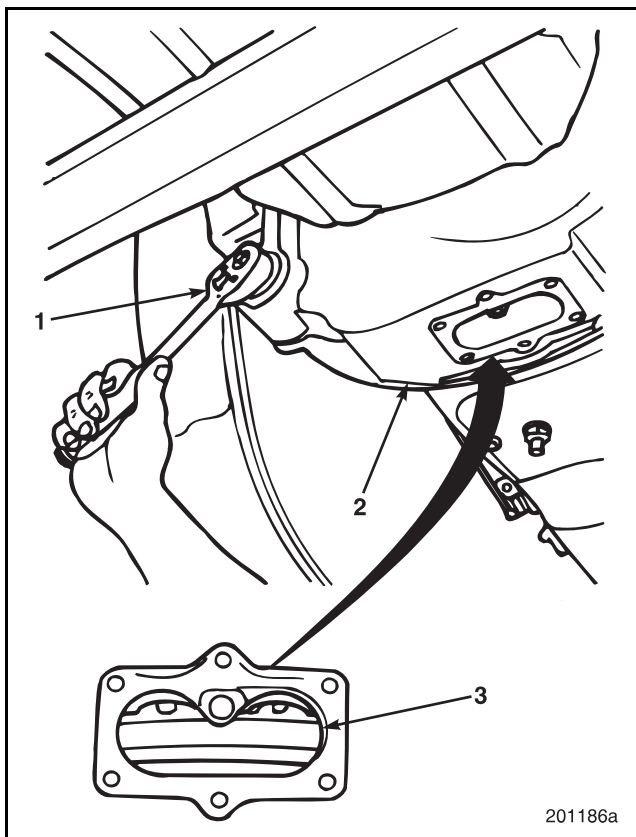

Figure 7-11 — Engine Crankshaft Rotation
- Using engine barring socket J 38587-A, manually rotate engine in normal rotation direction 120 degrees until pointer in flywheel housing aligns with the "5" mark on the flywheel. The No. 5 piston will be on the compression stroke. If engine is equipped with a pointer on the timing gear cover and marks on the vibration damper, rotate the engine until the pointer marked VALVE aligns with the "5" mark on the vibration damper. Refer to Figure 7-11.